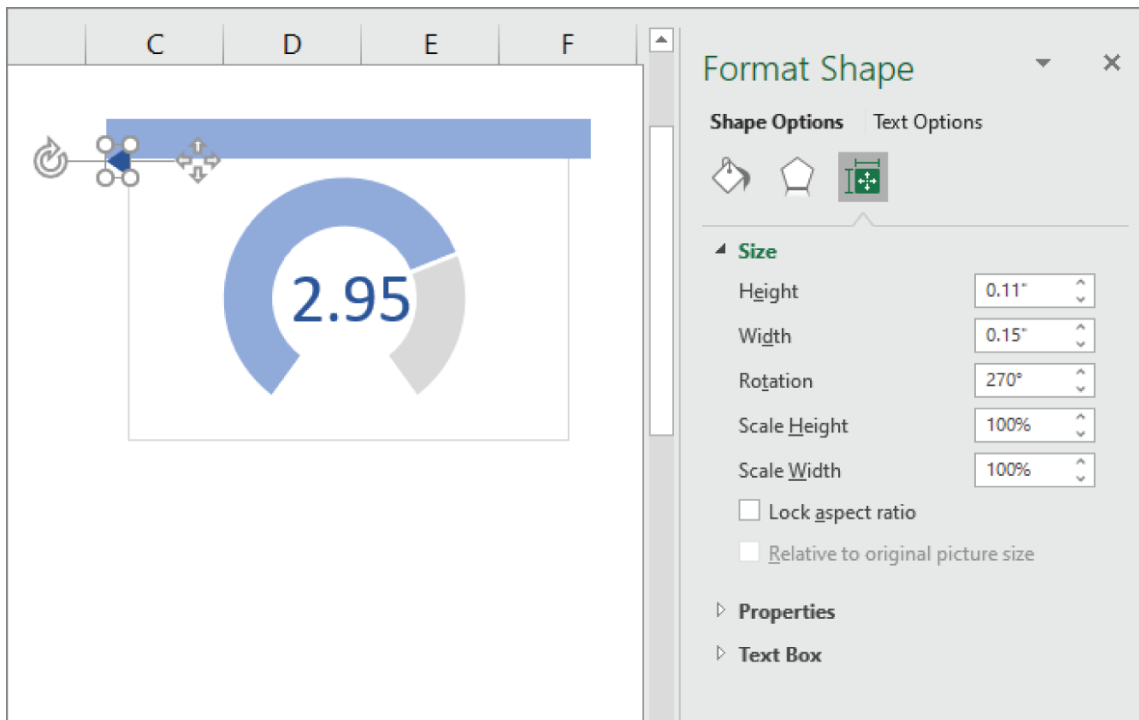

Figure 6.11: Position a triangle below the rectangle.
9. Change the height and width properties and position the triangle just below the rectangle and outside the borders of the chart, as shown in Figure 6.11.